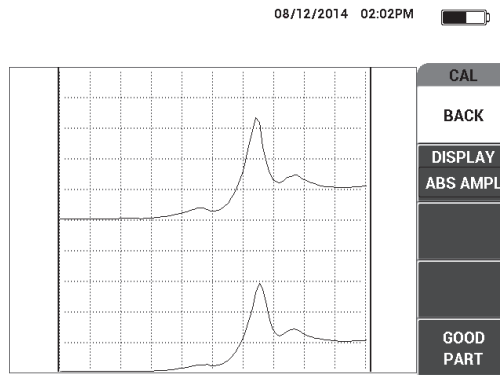

Figure 6-64 The signal for the defect-free zone
5. Hold the probe over a defect-free section, and then press **GOOD PART** (E key) [see Figure 6-64 on page 177].